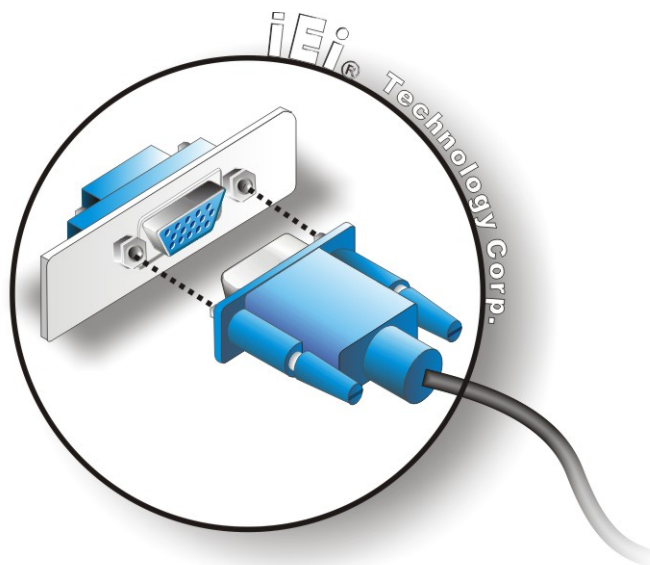

Figure 5-18: VGA Connector
Step 3: **Insert the VGA connector** Once the connectors are properly aligned with the insert the male connector from the VGA screen into the female connector on the WSB-Q354. See **Figure 5-18**.